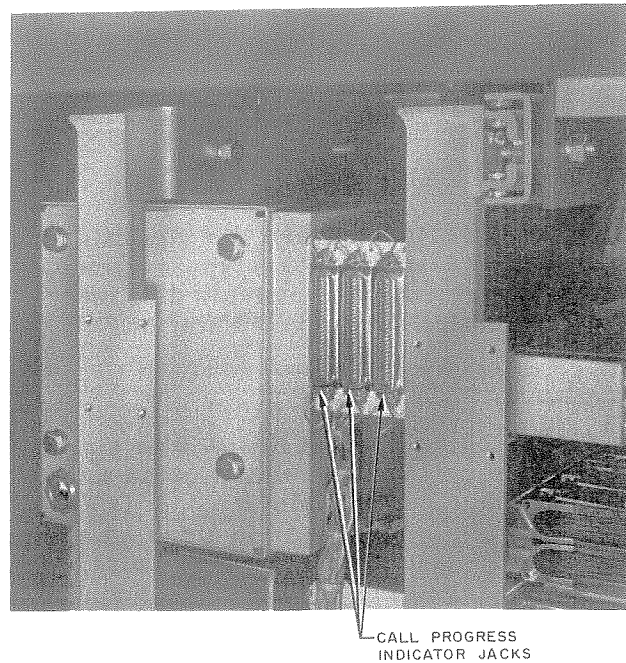

Fig. 3 - Call Progress Indicator Jacks on Slide No. 2
2.08 Three jacks at the top of slide No. 2 are provided (see Fig. 3). A test box called call progress indicator set may be plugged into these jacks. See section entitled Call Progress Indicator Set, Operating Methods.